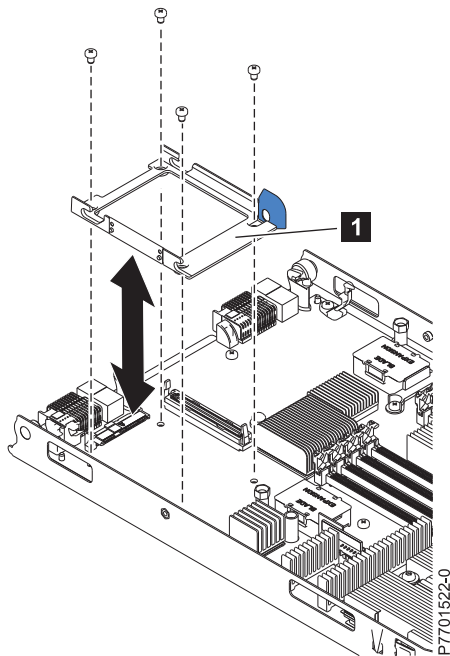

Figure 32. Installing the disk drive tray
1. Place the drive tray (**1** in Figure 32) into position on the system board and install the four screws to secure it.